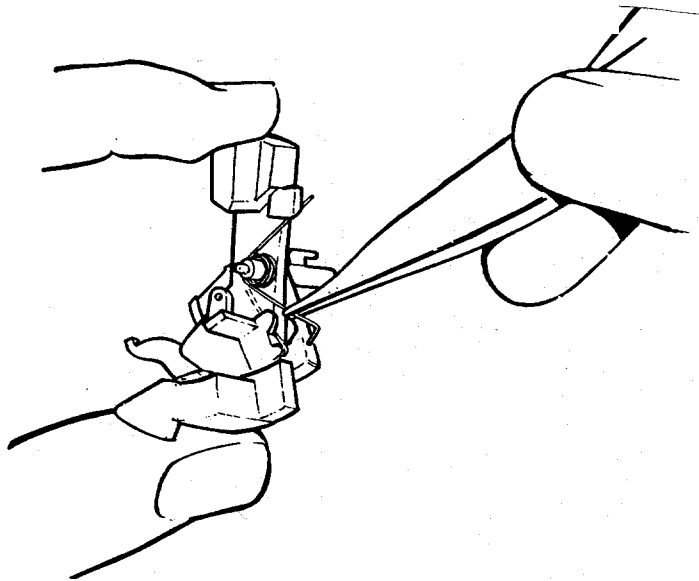

Fig. 22 Disassembling Inertia from Walking Beam
26. Disassemble Inertia and Walking Beam by removing Inertia Spring and lifting off Inertia (Fig. 22). To aid in later reassembly, note the trapped position of each leg of Spring before removing it.